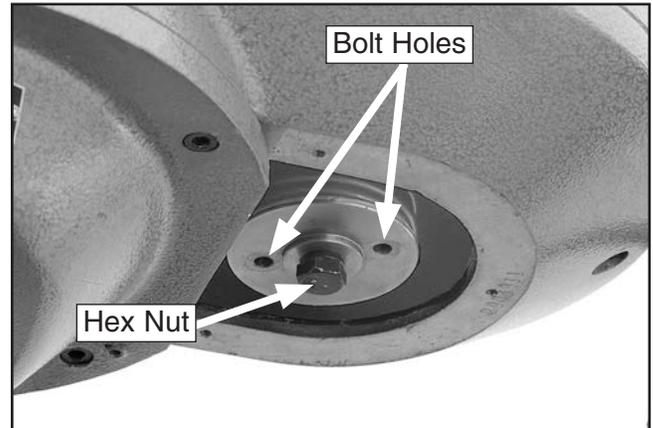

Figure 76. Location of the two spring retaining plate holes and hex nut.
4. Thread two M6-1 x 60 bolts into the spring retaining plate holes shown in **Figure 76**, then tighten the bolts to compress the spring slightly.
5. Remove the spring retaining plate hex nut (see **Figure 76**), then carefully remove the two M6-1 x 60 bolts and the spring retaining plate.